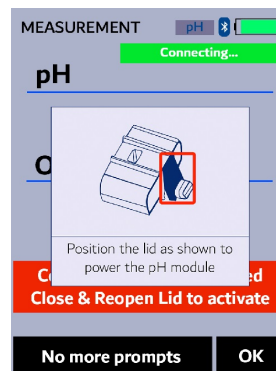

Figure 9.
**\*NOTE\*** If the pH/ORP module powers off or was not powered on to begin with (see step 1) an instruction message will be promoted on the screen showing how to turn on the pH/ORP module (Figure 9).